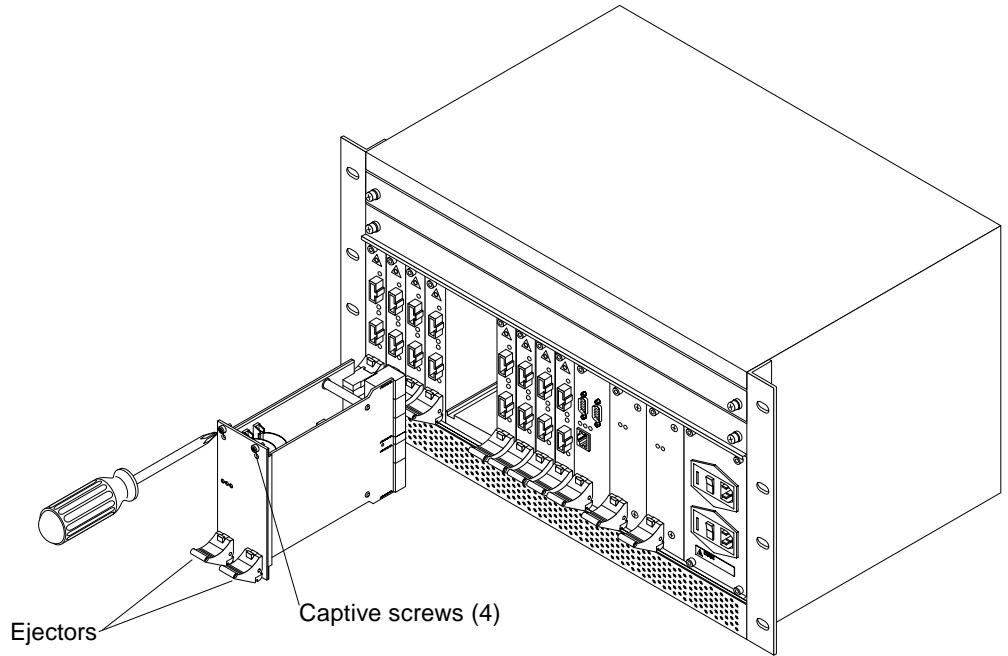

FIGURE 4-4 Replacing a Switch ASIC Module
- 4. Loosen the four captive screws, two each on the top and bottom of the module (FIGURE 4-4).**
6. **Tighten the four captive screws, two each on the top and bottom of the module (FIGURE 4-4) to seat the module into the backplane connector.**